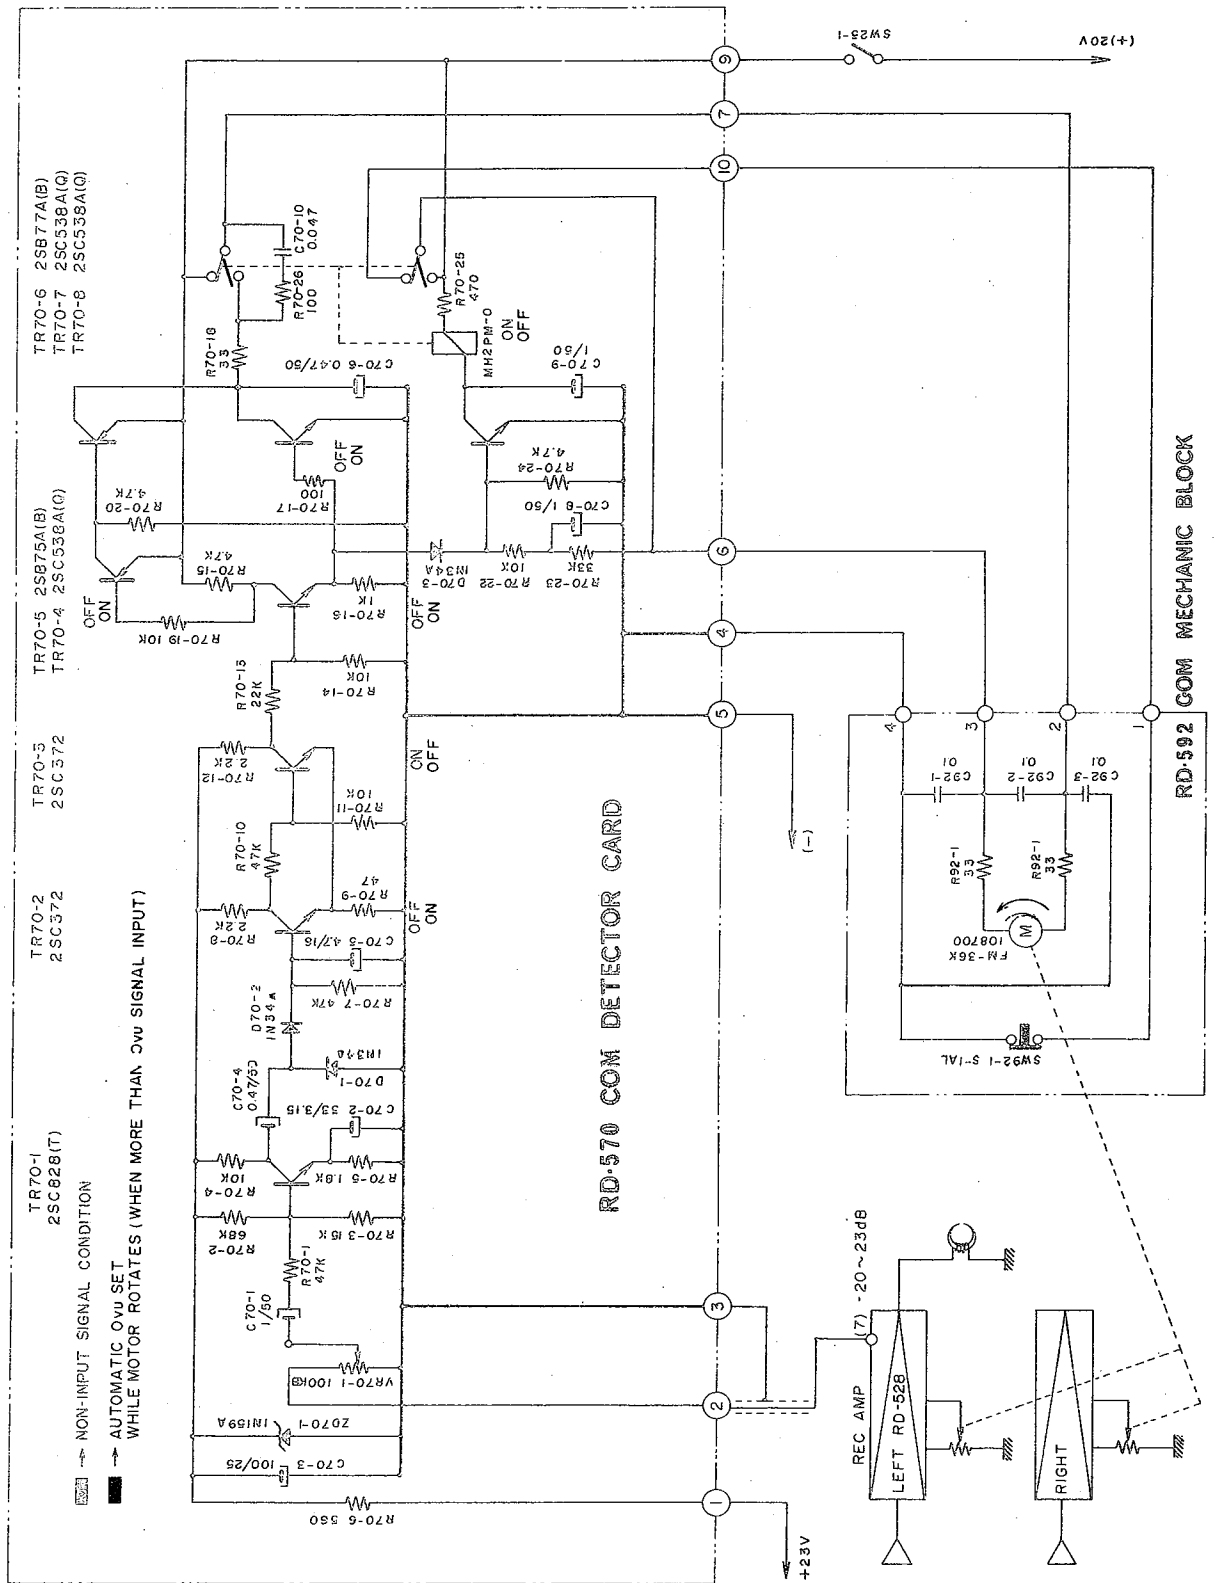

Fig 10
a) By depressing the Set Button (SW25-1) with no input signal applied to Line Input or Microphone Jacks, current flows to the Comput-O-Matic Motor through the Relay (MH2PM-0) (a normally closed contact) and the Microswitch (SW92-1), causing the Motor to rotate in the direction indicated by the blue line in Figure 10.
As current is cut off, Bias Voltage is applied to Transistor TR70-8, through R70-23 and R70-22, actuating TR70-8. As TR70-8 is actuated ("ON") collector current flows through the Relay Coil MH2PM-0, engaging the Relay. However, when no input signal is applied, current does not flow to the Motor because Transistor TR70-7 is inoperative (OFF), as shown in Figure 10.
b) Under conditions as described above, but when input signals are applied to the Line Input or Microphone Input Jacks (for input signals level of 0 VU or greater) the function of Transistors are as shown by the red print in Figure 10. As TR70-7 is actuated, TR70-7 collector current flows through the Motor, causing the Motor to rotate in the direction indicated by the red arrow in Figure 10.
When the signal level to the Recording Amplifier is reduced to 0 VU, the conditions of the COM Detector Card Transistors are again as indicated in blue print in Figure 10, TR70-7 is cut off and the Motor stops.